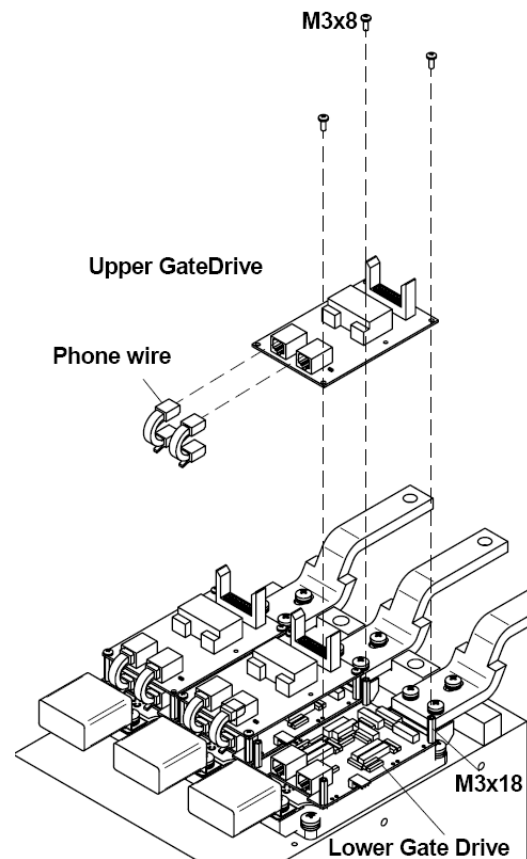

Figure 3.18. Assembly of the upper Gate Drive
Follow figure 3.18 while reading these instructions:
- 2) Place the new board on the hexagonal spacers **M3x18**. (figure 3.18).